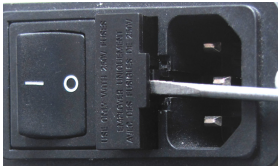

Fig. 27—Insert the screw driver under the fuse housing lip and pry the housing open.
3. Insert a small flat blade screwdriver under the lip on the right side of the fuse housing cover (Fig. 27).